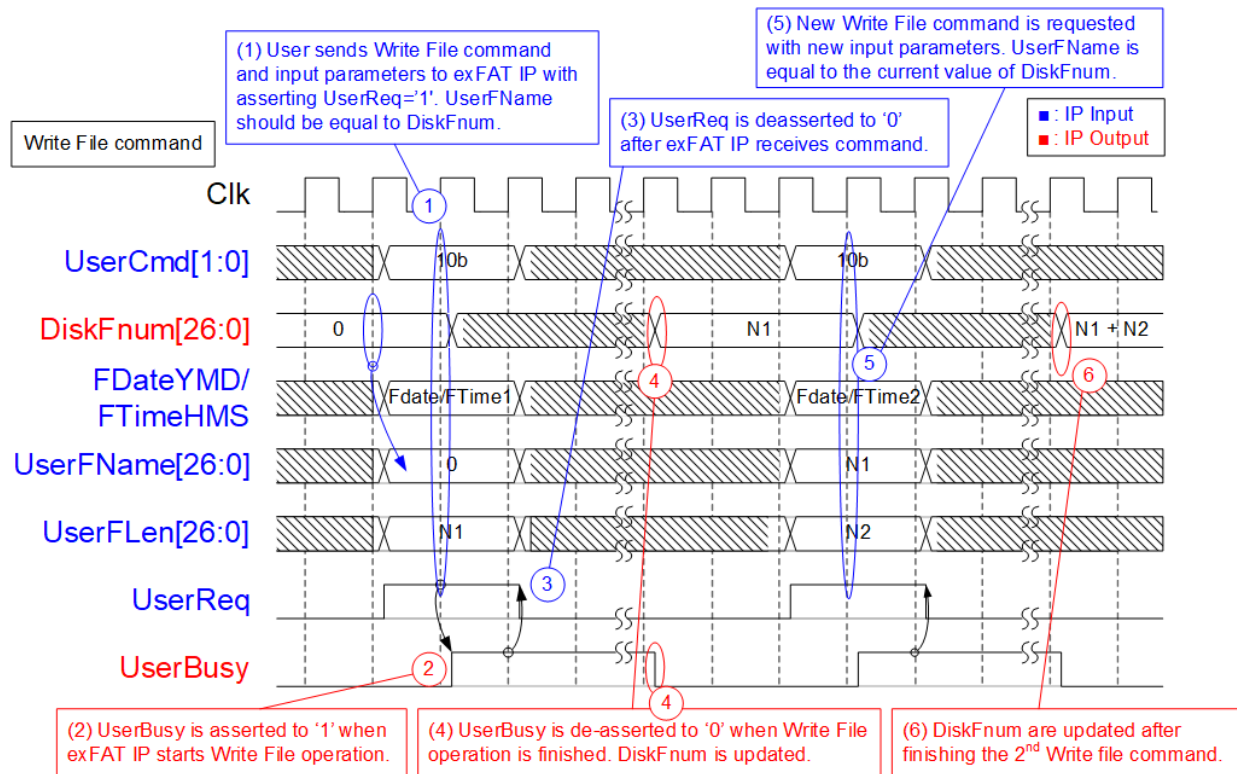

Figure 7: Timing diagram of control interface during Write file command
- 1) User sets UserCmd = 10b (Write File), FDate (created date), FTime (created time), UserFName (the first file name to write), and UserFLen (total amount of written files) with asserting UserReq to '1'. UserFName should be equal to DiskFnum to create new file name which is the next value from the latest name. UserFLen must not be more than TotalFCap - UserFName. As shown in Figure 7, UserFName is equal to 0 when running the first Write file command to empty device.